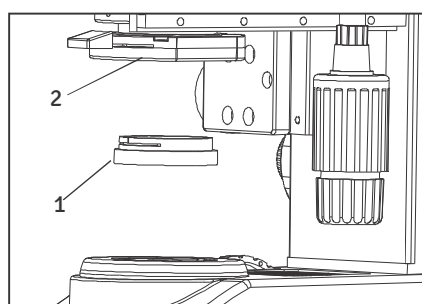

Fig. 26
- Fit the daylight filter (1) into the button of the condenser (2) until it clicks into place. See figure 26.